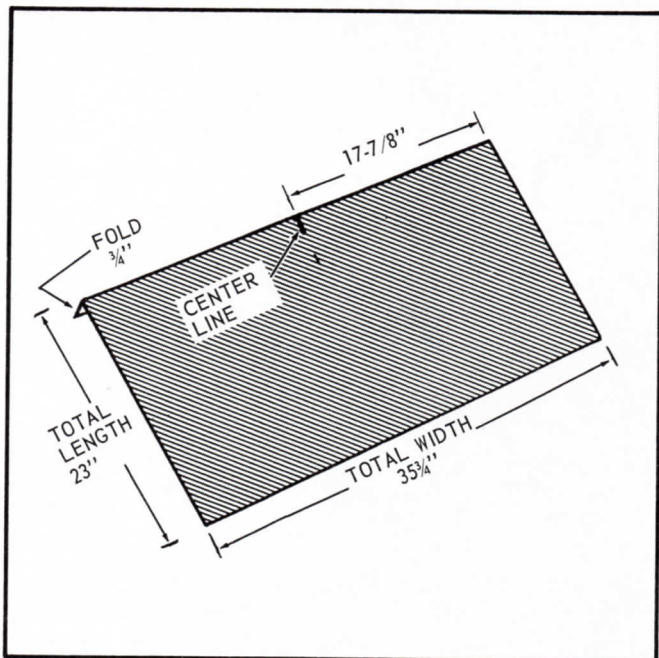

Figure 13
1. Cut the packing to the size shown in Figure 13. Cut all edges square and mark the center line.